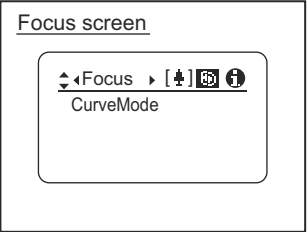

Fig1-8
6. Focus screen \*2  ..... (See Fig. 1-8 below)